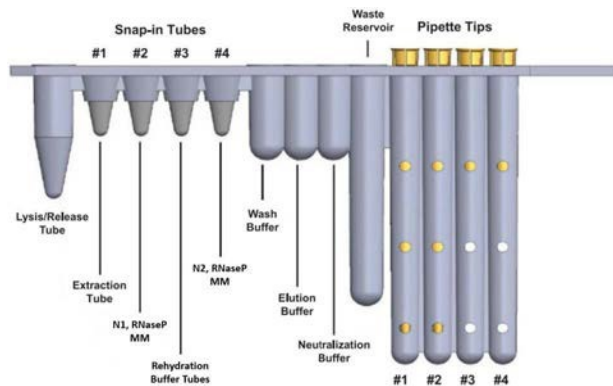

Figure 1: Snap Extraction Tubes and Master Mix Tubes into Unitized Reagent Strips
5. For each specimen to be tested, place one (1) Unitized Reagent Strip on the BD MAX System Rack, starting with Position 1 of Rack A. Assemble the strip as in Figure 1: